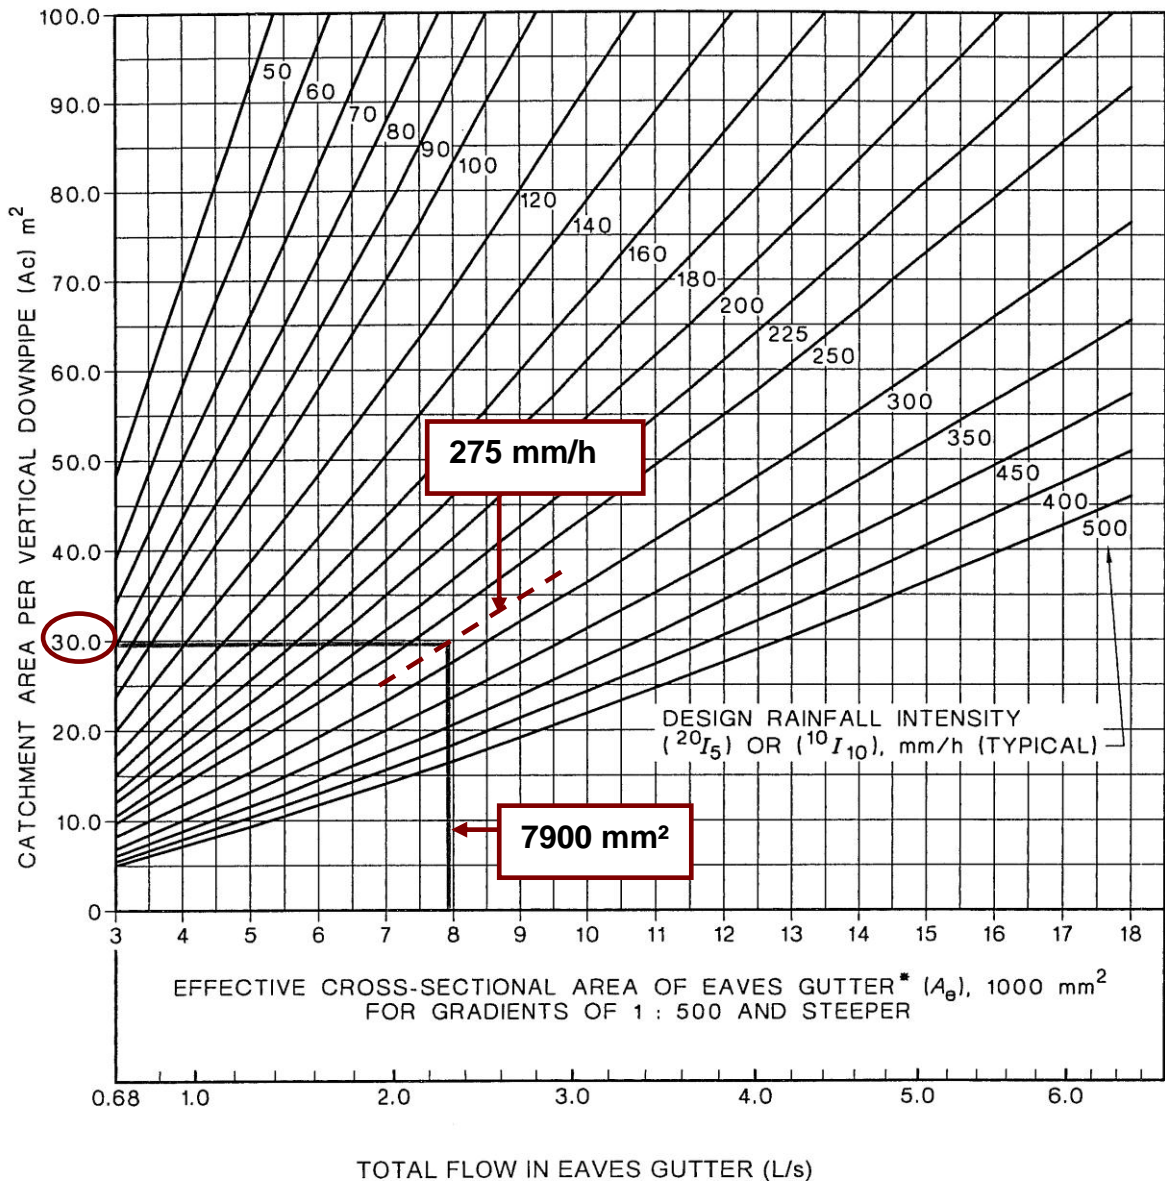

FIGURE 3.5(A) REQUIRED SIZE OF EAVES GUTTERS FOR GRADIENTS FOR 1:500 AND STEEPER
Refer: FIGURE 3.5(A) REQUIRED SIZE OF EAVES GUTTER FOR GRADIENTS FOR 1:500 AND STEEPER.